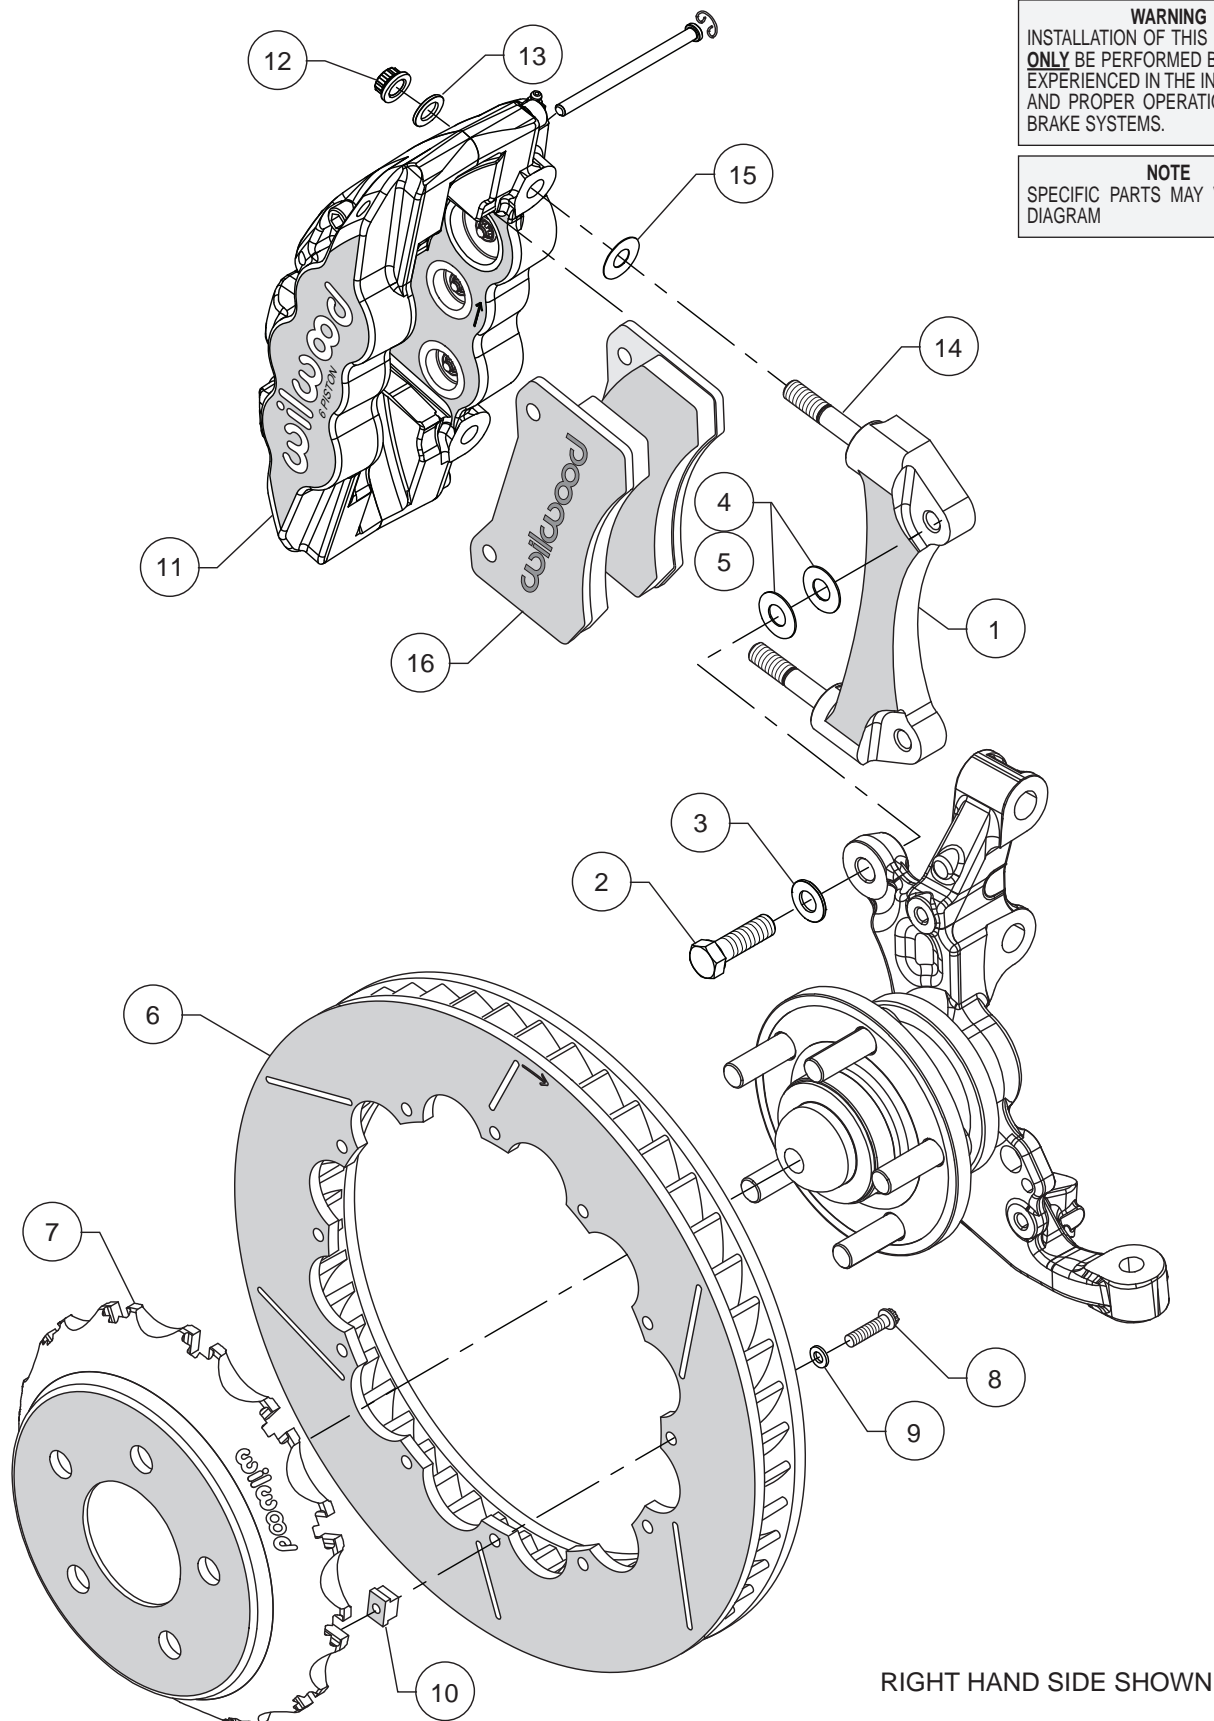
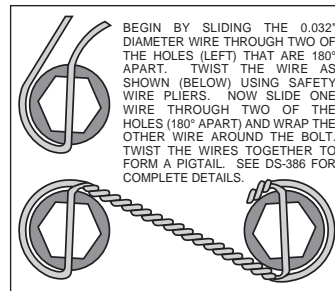

Figure 1. Typical Installation Configuration
Figure 3. Safety Wire Diagram
Assembly Instructions (numbers in parenthesis refer to the parts list and Figure 1 on the preceding pages):
- The caliper mount bracket (1) should initially be installed with clean, dry threads on the mounting bolts. Orient the bracket, as shown in Figure 1 and Photo 1, and install using bolts (2) and washers (3). Initially place two .033" thick shims (4) on each bolt between the bracket and upright, Figure 1. Temporarily tighten the mounting bolts. **NOTE:** The bracket must fit squarely against the mount bosses on the upright. Inspect for interference from casting irregularities, machining ridges, burrs, etc. Later, after the caliper alignment has been checked, the mount bolts will be secured using red *Loctite*® 271.
- Orient the rotor (6) and the hat (7) as shown in Figure 1 and Photo 2. Attach rotor to hat using bolts (8), washers (9), and t-nuts (10), Figure 1. Follow additional instructions included with the bolt kit. Using an alternating sequence, apply red *Loctite*® 271 to the threads, and torque to 120 in-lbs. Safety wire bolts using standard 0.032 inch diameter stainless steel safety wire as shown in Figure 3. Refer to Wilwood's data sheet DS-386 (available at www.wilwood.com/Pdf/DataSheets/ds386.pdf) for complete safety wire installation instructions.
- **NOTE:** This kit contains distinct right and left hand calipers that must be mounted in a specific direction, as described below. Lubricate the caliper mounting studs (14) with lightweight oil. Initially place one .030" thick shim (15) on each stud between the caliper and the bracket, as shown in Figure 1 and Photo 4. Mount the caliper (11) onto the bracket (1) using lock nuts (12) and washers (13), Figure 1. Temporarily tighten the lock nuts. Ensure that the caliper is mounted so the largest pistons are at the rotor exit end of the caliper, in relation to the direction of the rotor. View the rotor through the top opening of the caliper. The rotor should be centered in the caliper, Photo 5. If not, adjust by adding or subtracting shims (4 and/or 5) between the bracket and the upright. Always use the same amount of shims on each of the two mounting bolts. Once the caliper alignment is correct, remove the bracket mounting bolts one at a time, apply red *Loctite*® 271 to the threads, and torque to 60 ft-lbs.
- Remove the two pad retaining pins from the caliper (11) by carefully popping out the pin retaining clips and sliding out the pins. Insert the brake pads (16) into the caliper from the bottom, Figure 1 and Photo 6. With the friction material facing the rotor, secure the brake pads in place with the pad retaining pins and clips, Photo 7. Reinstall the caliper onto the caliper mounting bracket and temporarily tighten the lock nuts. Check that the top of the brake pad is flush with the outside diameter of the rotor, Photo 8. If not, adjust by adding or subtracting shims (15) between the caliper and the bracket. After the caliper pad height is set, torque the caliper lock nuts (12) to 47 ft-lb.